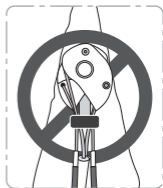

Figure 2
- Ensure that all the cam lobes make good contact against the rock face, and that the crack beneath the contact point does not open (**see figure 2**).